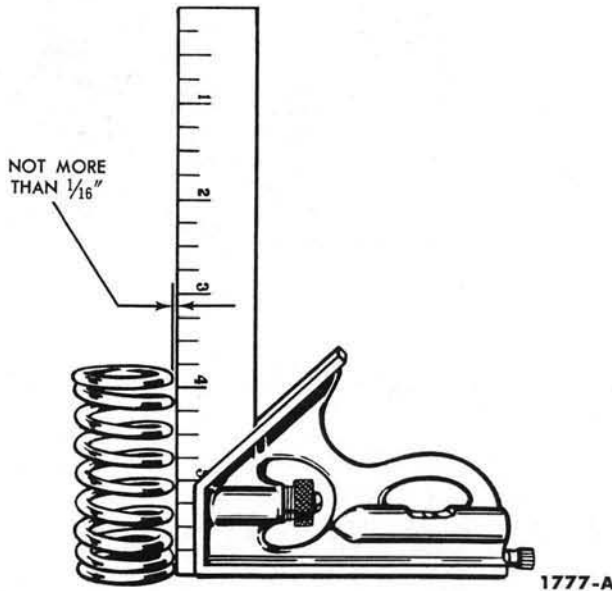

FIG. 14—Valve Spring Squareness
**Valve Spring Squareness.** Check each spring for squareness using a steel square and a surface plate (Fig. 14). Stand the spring and square on end on the surface plate. Slide the spring up to the square. Revolve the spring slowly and observe the space between the top coil of the spring and the square. If the spring is out of square more than 1/16 inch, replace it.